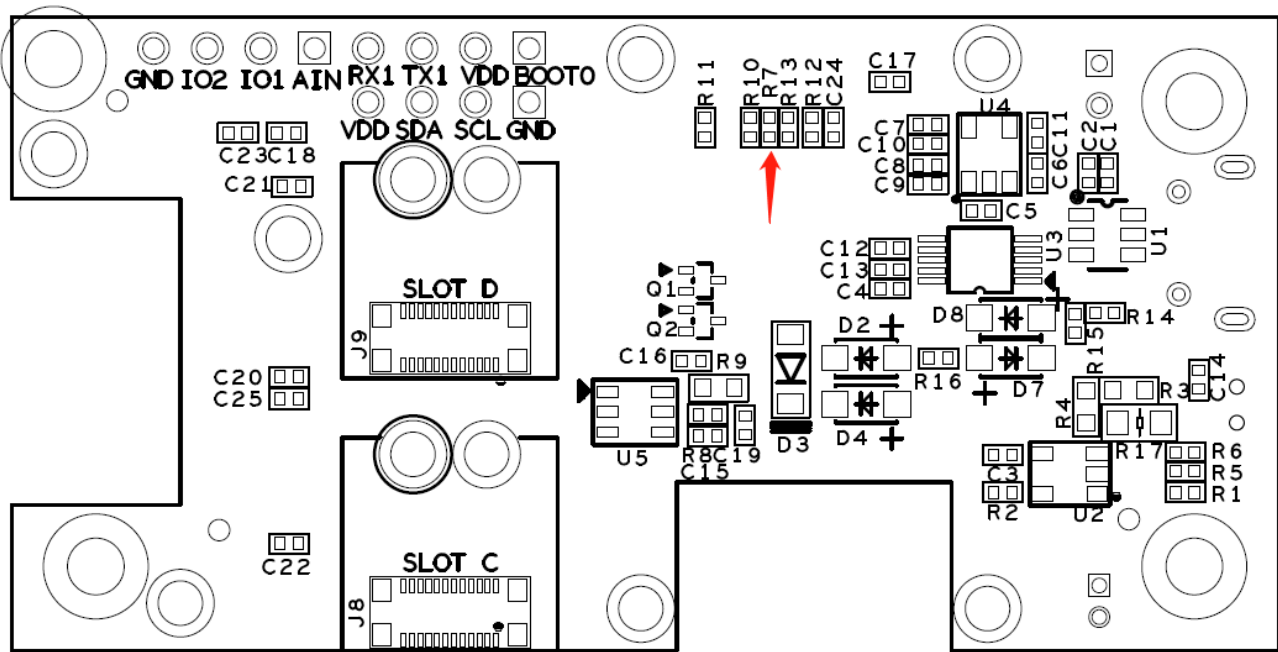

Figure 8: R7 on RAK5005-O
- In RAK5005-O, remove the R7 resistor, as shown in **Figure 8**.
- In RAK5005-O, remove the R7 resistor. See **Figure 8**.